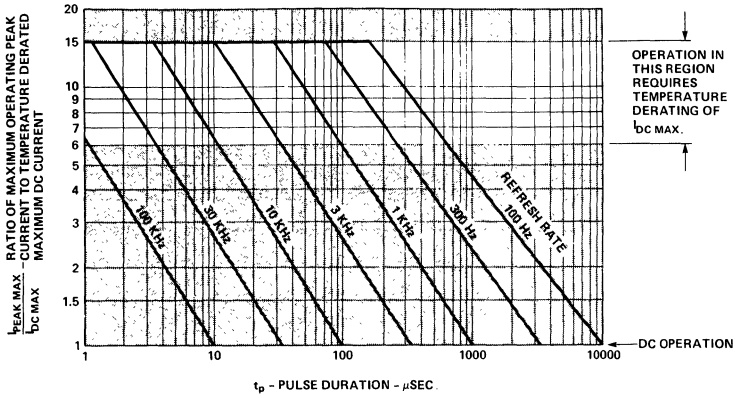

Figure 1. Maximum Tolerable Peak Current vs. Pulse Duration.
Figure 1 relates refresh rate, f , and pulse duration, t_p , to a ratio which defines the maximum desirable operating peak current as a function of derated dc current, $I_{P\text{ MAX}}/I_{DC\text{ MAX}}$. To most effectively utilize Figure 1, perform the following steps:
- Enter Figure 1 at the calculated t_p . Move vertically to the refresh rate line and then record the corresponding value of $I_{P\text{ MAX}}/I_{DC\text{ MAX}}$.